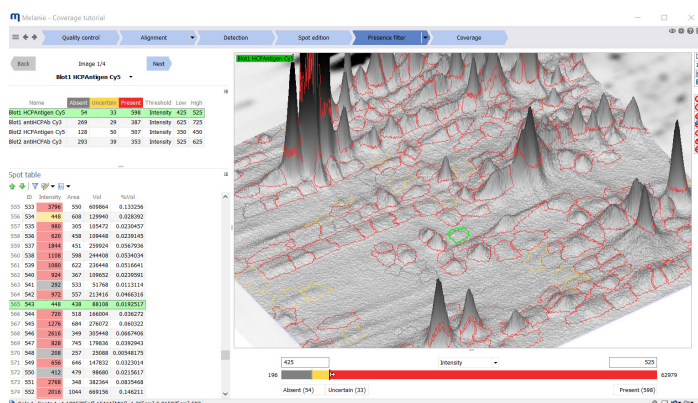

Fig 5. For each image, a slider can be used to set filter thresholds to categorize spots as absent (gray), present (red), and uncertain (yellow).
- Melanie™ coverage provides for two user-determined thresholds to categorize spots as absent, present, or uncertain (Fig 5). Only the uncertain spots will require manual review, resulting in significant time savings